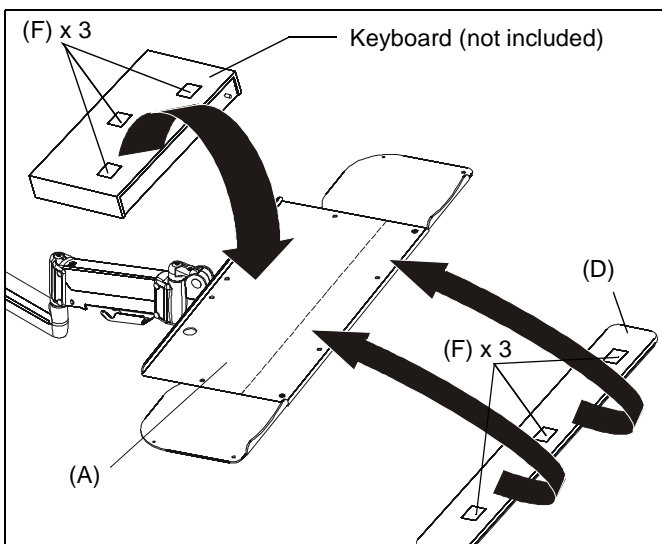

Figure 4
1. Remove paper from adhesive backing on one side of hook and loop fasteners (F).
2. Place hook and loop fasteners (F) on bottom of the keyboard (not included) and bottom of wrist pad (D) approximately as shown. (See Figure 4)
3. Remove paper from the adhesive backing on the other side of the hook and loop fasteners (F).
4. Firmly place keyboard on keyboard tray making sure to leave room for the wrist pad, if necessary. (See Figure 4)
5. Firmly place wrist pad (D) on keyboard tray in front of the keyboard. (See Figure 4)